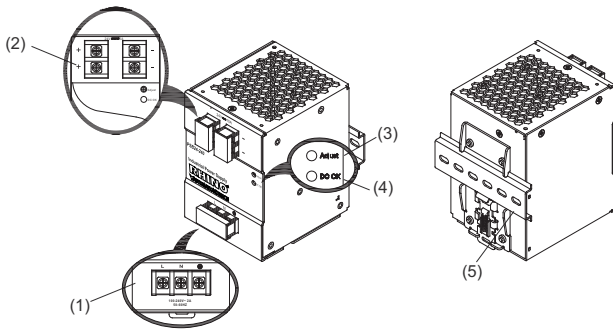
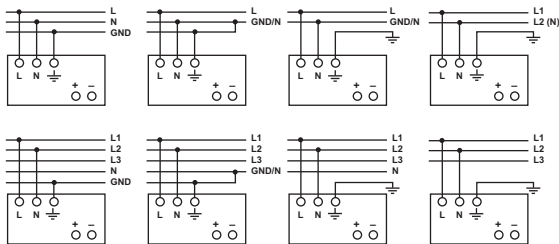

Figure 1
Figure 5
## 2. Device description (Fig. 1)
### 5.1. Input connection (Fig. 1, Fig. 5)
Use L, N and GND connections of input terminal connector (see Fig. 1 (1)) to establish the 100-240 VAC connection.
### 5.2. Output connection (Fig. 1 (2))
The green LED DC OK displays correct function of the output (Fig. 1 (4)).